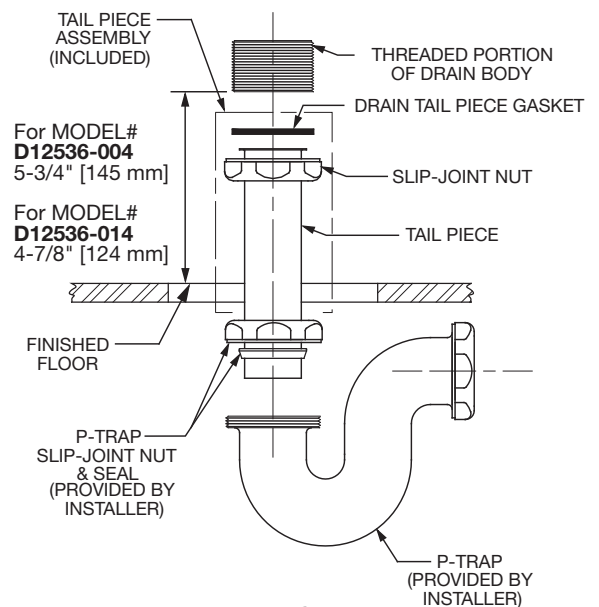

FIG. 4
- The 1-1/2" diameter tail piece is compatible with drain provided. (See **Fig. 4**)